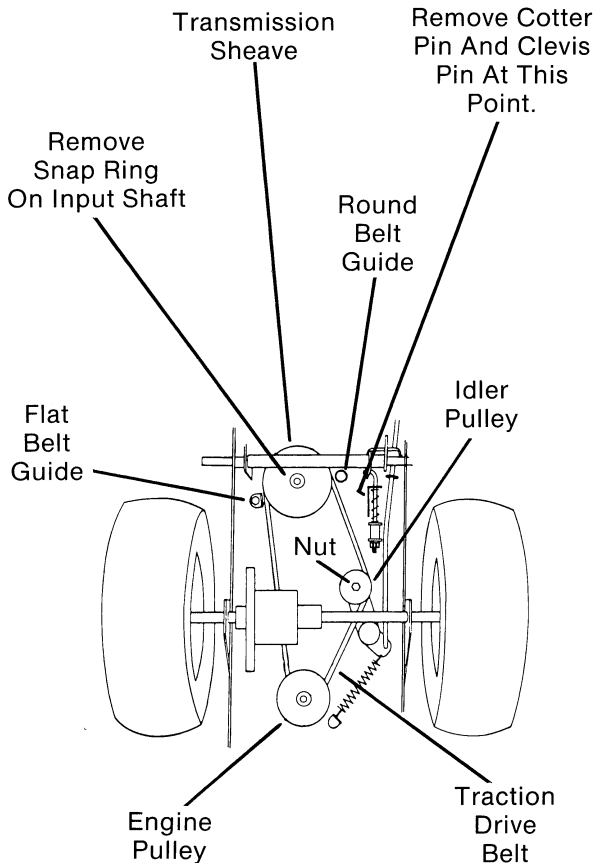

FIG. 26
12. Remove locknut that secures traction drive idler pulley to idler lever assembly and remove idler pulley. (Fig. 26)
13. Loosen locknut on capscrew holding flat belt guide and turn belt guide 90° clockwise. (Fig. 26)
14. Remove capscrew holding round belt guide to main frame. (Fig. 26) NOTE: This capscrew is also one of the capscrews holding transmission to main frame.
16. Remove cotter pin and clevis pin attaching transmission brake control arm to brake adjustment rod link. (Fig. 26)
17. Remove snap ring holding transmission sheave to transmission input shaft. (Fig. 26) Remove transmission sheave and woodruff key from input shaft.